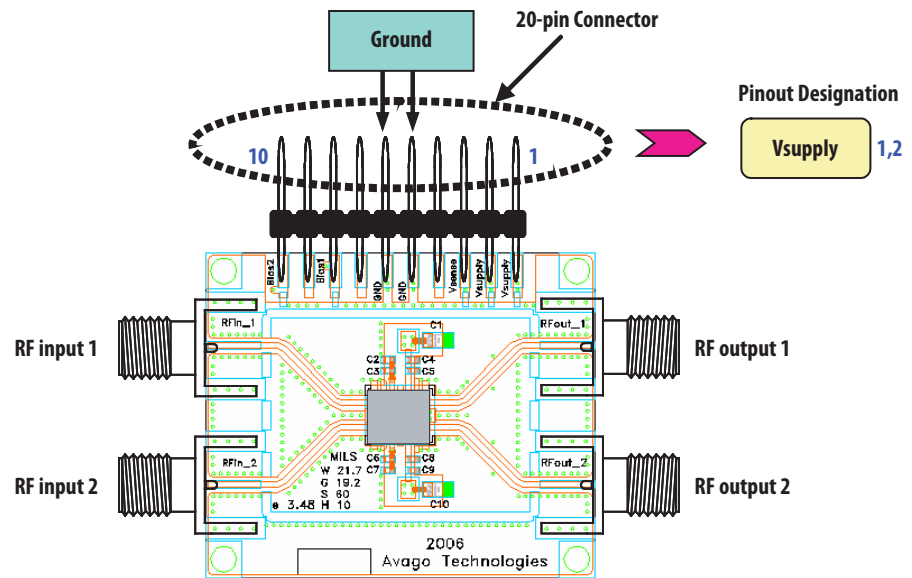

Figure 5. Demo Board Layout Diagram
$T_A = 25\text{ }^\circ\text{C}$ ,  $V_{dd} = 5\text{V}$  @ 280mA, RF performance at 2.0 GHz, given for each of the 2 RF paths, measured on demo board (see Fig. 5) unless otherwise specified.
- Measurements at 2GHz obtained using demo board described in Fig 5.